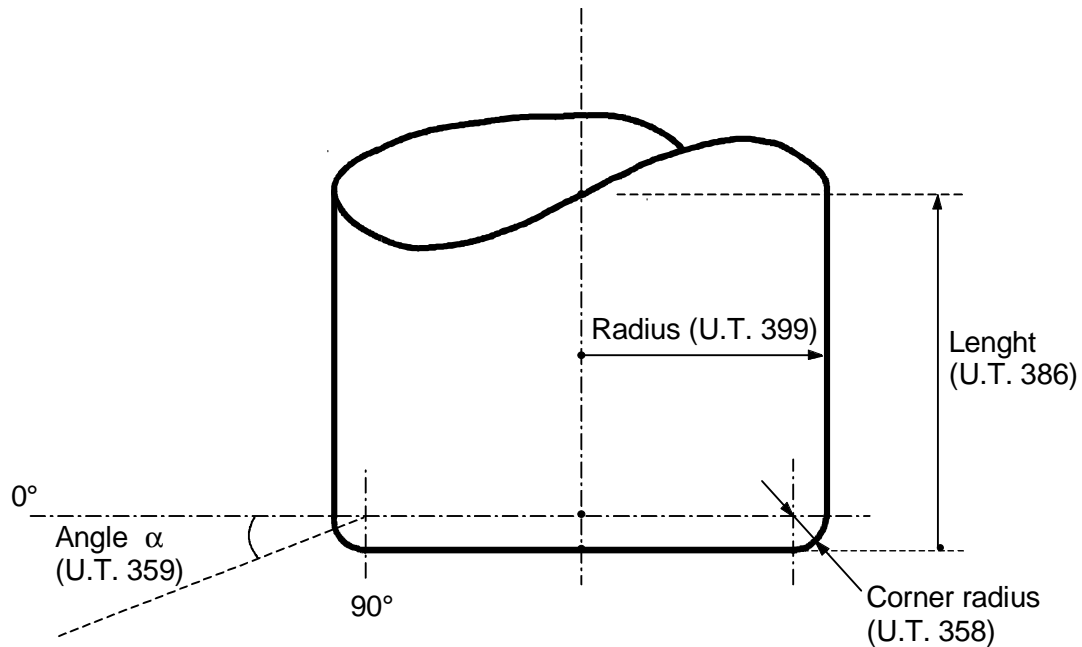

Fig. 2.5 Toroidal tool
- n angle of contact between cutting corner and piece (coincides with parameter 359) see figures 2.5 and 2.6.